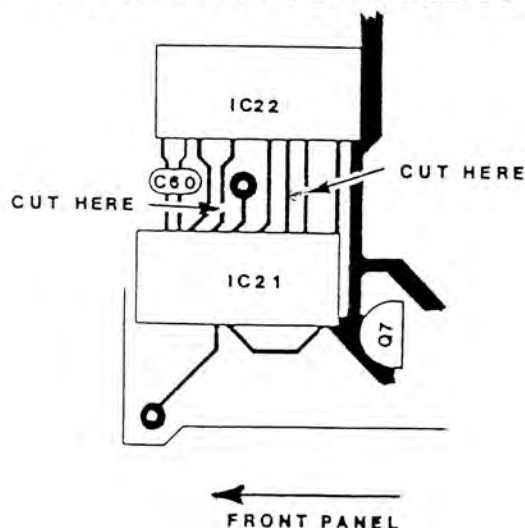

Figure 4-12a Location of Traces for PAL/NTSC Modification
1. On the top (component side) of the EC-101 Main PCB, cut the trace between IC 21 Pin 6 and IC 22 Pin 11. Refer to Figure 4-12a for trace location.